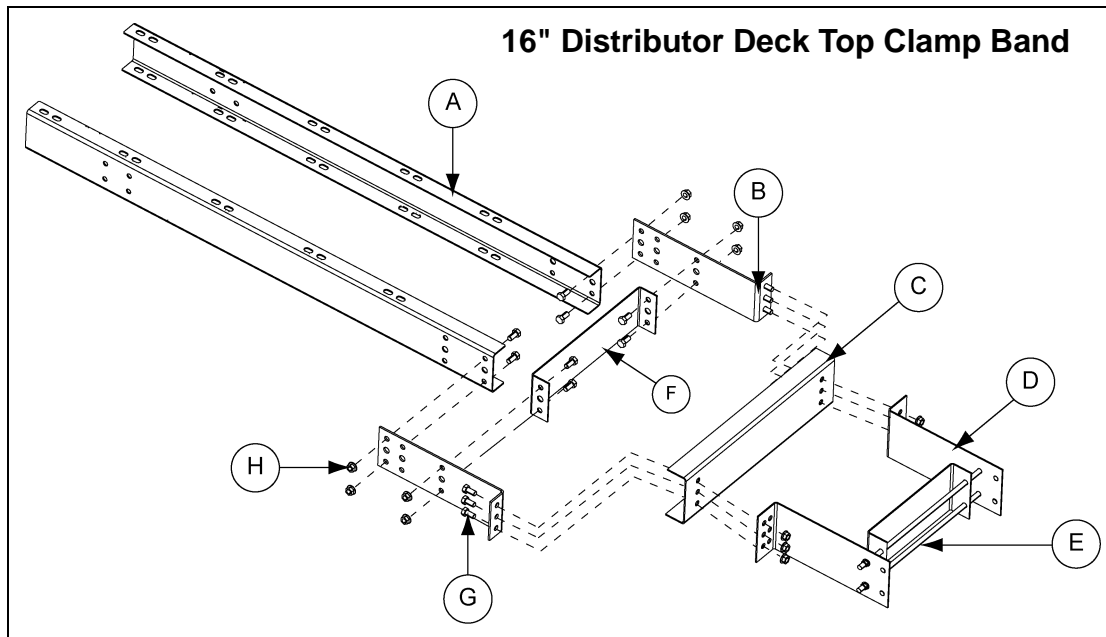

Figure 10A
1. Slide rods of clamp rod weldment into inside set of holes of clamp bands for 16" assembly. Fasten together using four (4) 1/2" hex flange nuts.
2. Line up the holes on the clamp strut with the set of holes closest to the bend on both of the 16"-24" long clamp clips and fasten all three (3) together using four (4) 1/2" x 1" bolts and nuts. This will create the clamp strut assembly.
3. Assemble the clamp band weldment, clamp channel and clamp strut assembly at one time around the trunking. Place clamp rod weldment assembly around the trunking leg and line up holes on 16"-24" long clips and clamp channel with the **outside set of holes** on the clamp rod weldment. Fasten all three (3) together using six (6) 1/2" x 1" bolts and nuts.
4. Line up the holes located at the end of the distributor support channels with the holes at the end of the 16"-24" long clamp clips. Fasten the support channels to the long clamp clips using four (4) 1/2" x 1" bolts and nuts. (See Figure 10A.)